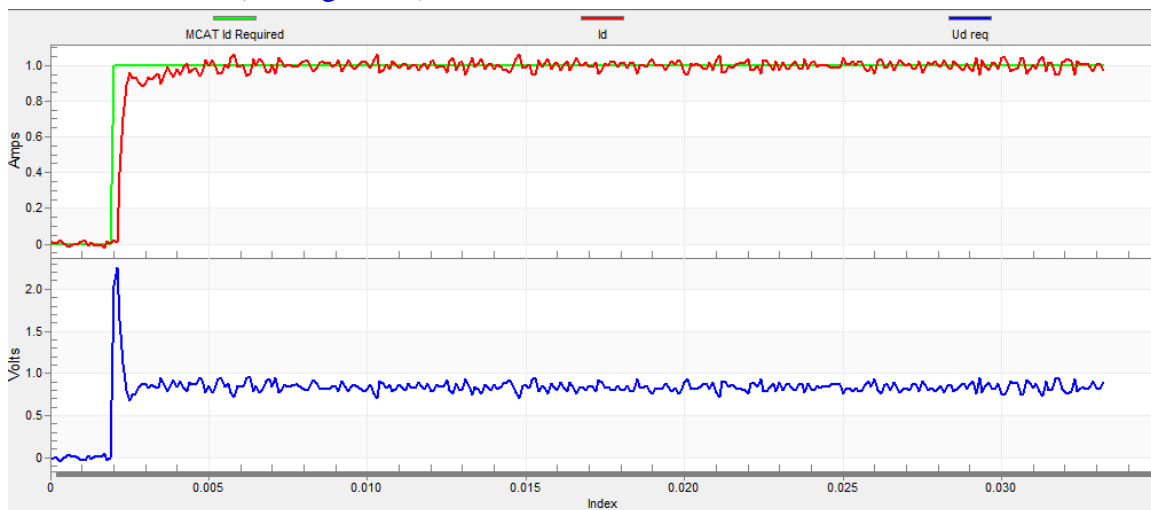

Figure 28. Optimal step response of the Id current controller
- The loop bandwidth (400 Hz) is optimal and the response time of the I_d current is sufficient (see Figure 28).